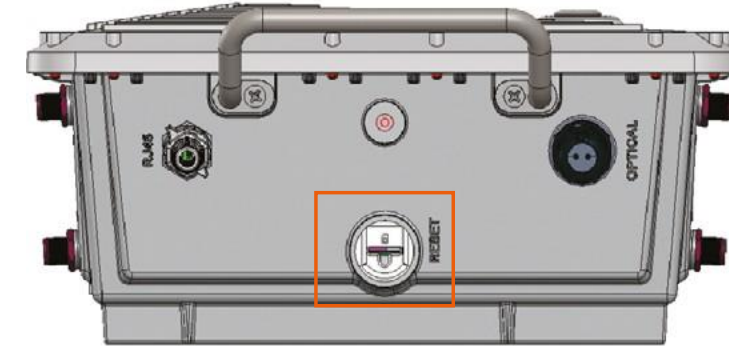

Figure 13: Uncovered SIM card slot
- c. Reinstall and snug the end cap to the uncovered SIM card slot as shown in Figure 13.